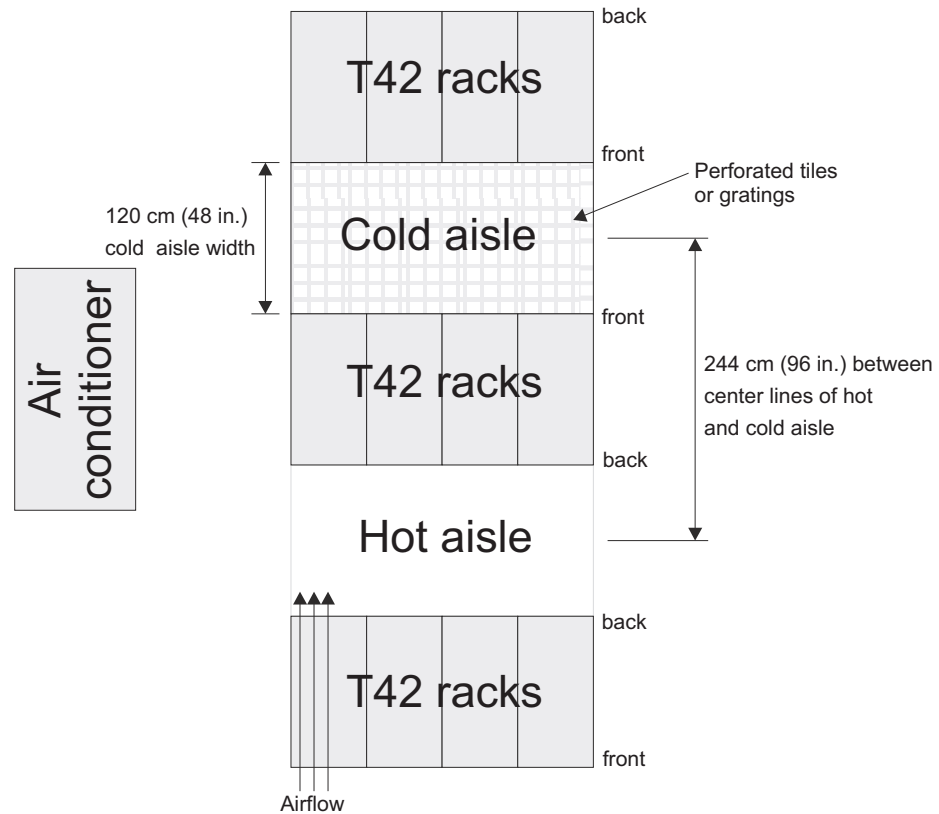

Figure 15. Example of cold aisle/hot aisle rack configuration
- Air enters at the front of the rack and leaves at the back. To prevent the air that is leaving the rack from entering the intake of another piece of equipment, you must position the racks in alternate rows, back-to-back and front-to-front. This arrangement is known as "cold aisle/hot aisle" and is shown in Figure 15 on page 23.
- Where racks are in rows front-to-front or back-to-back, gaps of at least 122 cm (48 in.) must separate the rows across the cold aisle (see Figure 15 on page 23).